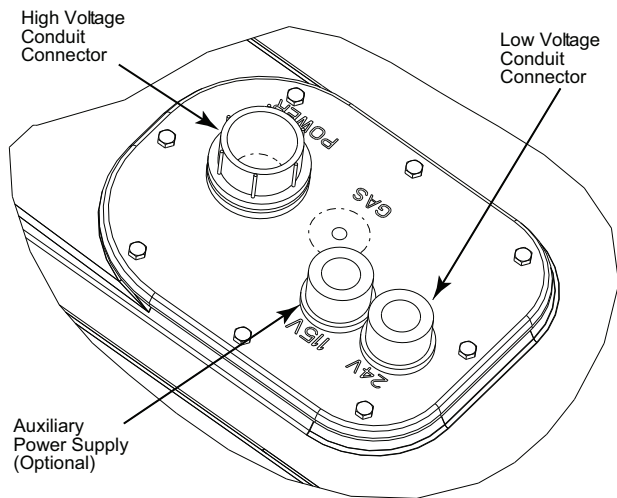

Fig. 27 — Thru-Base Connection Fittings
The 3/4-in. bulkhead connector enables the low-voltage control wires to pass through the basepan. The 1/2-in. bulkhead connector allows the high-voltage power wires to pass through the basepan. See Fig. 27.
3. Place the gasket over the embossed area in the basepan, aligning the holes in the gasket to the holes in the basepan. See Fig. 27.